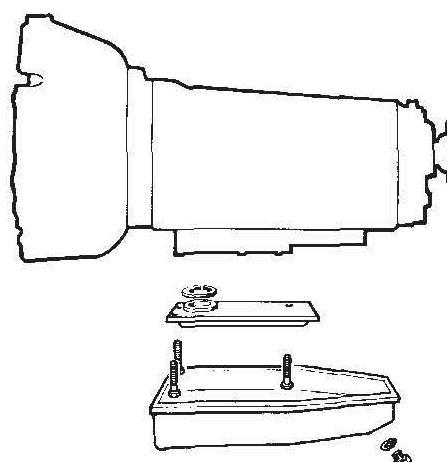

Fig 1
3. Remove the oil sump pan and filter. Discard the 'O'-ring seal (Fig 1).